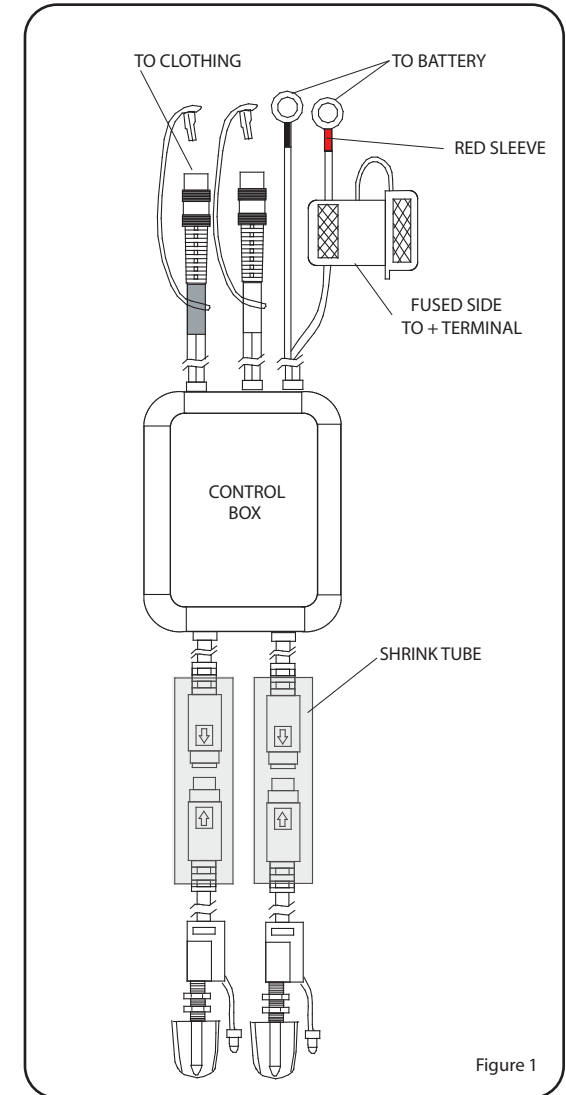

Figure 1
- K. Positive terminal is the fused side, identified by the red ring terminal. (See figure 1)